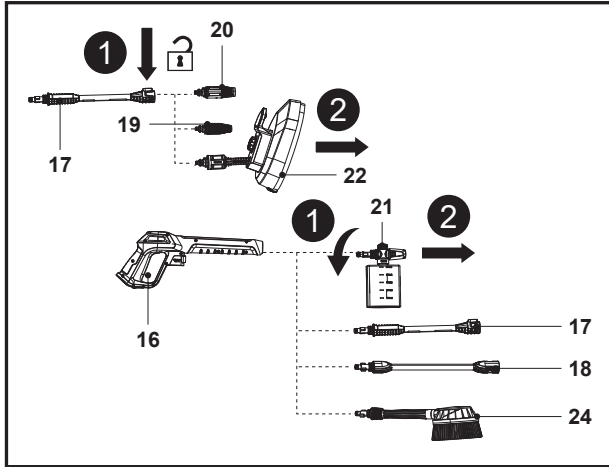

Fig. 21
1. Disconnect the nozzle (19 / 20 / 22) from the extension lance (17); Disconnect the detergent bottle nozzle (21), wash brush (24), extension lance (17), extension pole (18) from the spray gun (16) (Fig. 21).